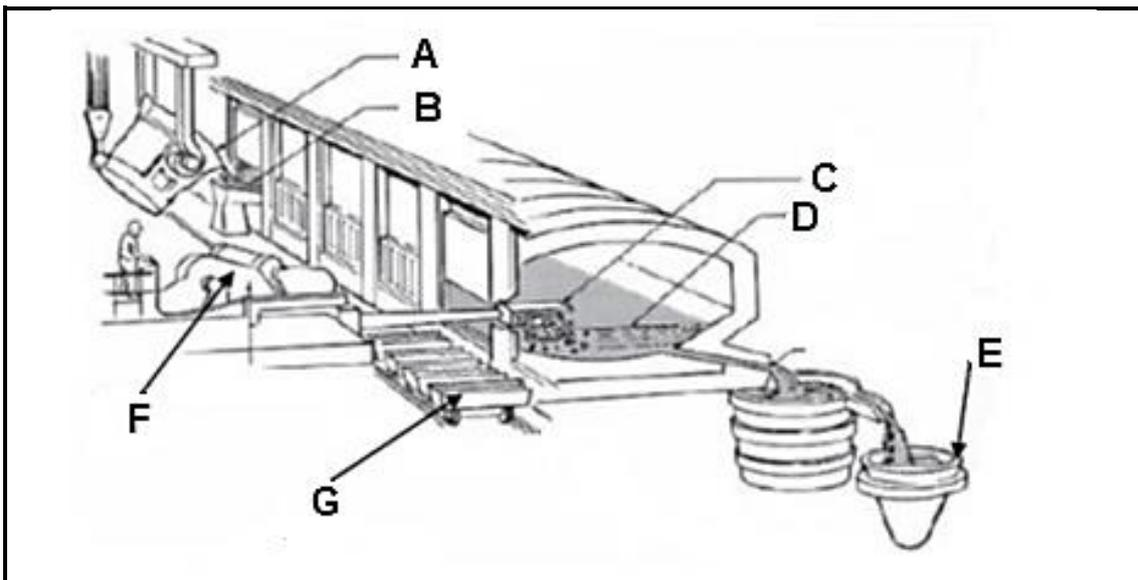

FIGURE 5.1
- 5.1 The diagram in FIGURE 5.1 below is one of the furnace used in metallurgical industries. Use it to answer the following questions.
- 5.1.1 Identify the type of furnace in the FIGURE 5.1 above. (1)
- 5.1.2 Label parts **A–G** in the FIGURE 5.1 above. (7)
- 5.1.3 What is the function of the furnace in the FIGURE 5.1 above? (2)